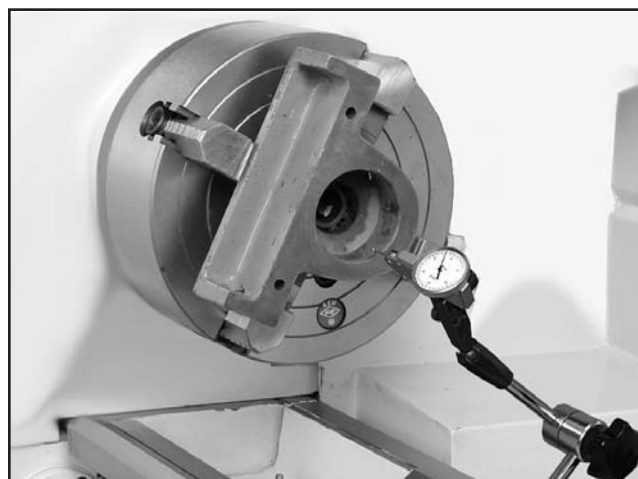

Figure 15. Centering workpiece.
8. Make fine adjustments by slightly loosening one jaw and tightening the opposing jaw until the workpiece is precisely aligned. Use a dial indicator for fine tuning adjustments in alignment (see **Figure 15**).